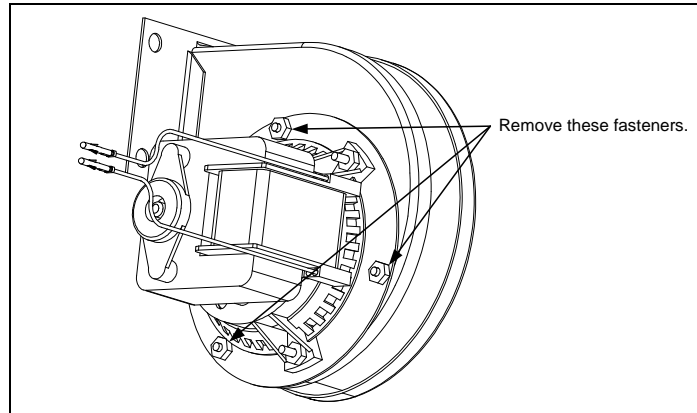

Figure 2
2. Remove the three fasteners that secure the blower motor assembly to the blower housing, and separate the two components (see Figure 2).